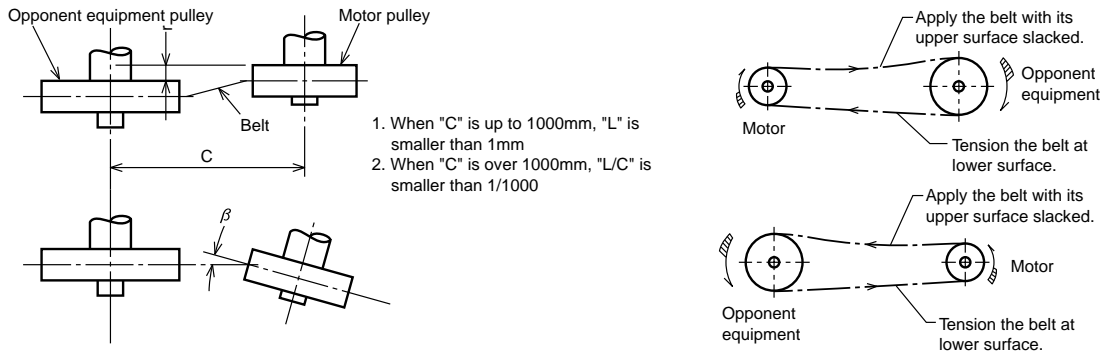

**Fig.1 Direct-connection to opponent equipment**
### (1) Direct-connection (Fig.1)